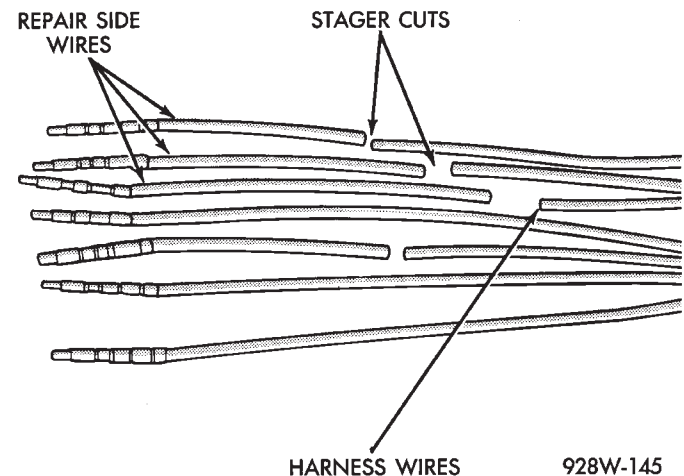

Fig. 20 Stagger Cutting Wires
(1) Disconnect battery.
(2) Disconnect the connector (that is to be repaired) from its mating half/component.
(3) Cut off the existing wire connector directly behind the insulator. Remove six inches of tape from the harness.
(4) Stagger cut all wires on the harness side at 1/2 inch intervals (Fig. 20).
(5) Remove 1 inch of insulation from each wire on the harness side.
(6) Stagger cut the matching wires on the repair connector assembly in the opposite order as was done on the harness side of the repair. Allow extra length for soldered connections. Check that the overall length is the same as the original (Fig. 20).